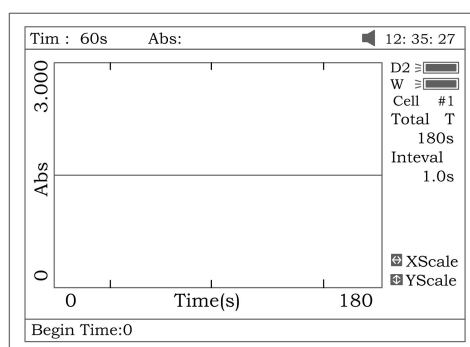
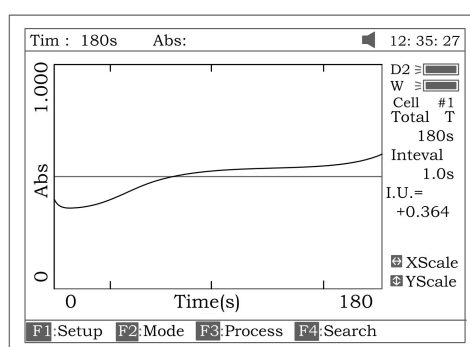

Fig 57
Fig 58
5. Press **【F3】** to process the data, and enter “Begin Time”, “End Time” and “Factor” (Fig 57) and the value in I.U. will be calculated and displayed (Fig 58). The average straight line between the Begin Time and End Time will be calculated. The gradient of this line gives the rate of change of $\Delta A/\text{min}$.